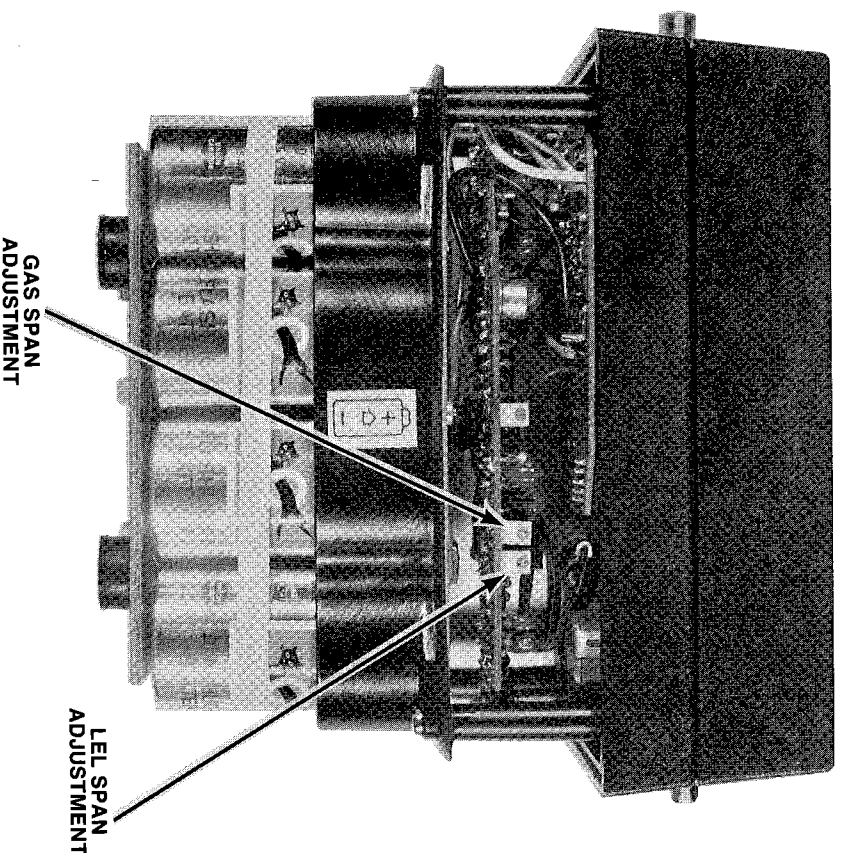

Figure 5-1. Location of Span Adjustments
2. Remove bottom section of case and place instrument on rubber bumpers, Figure 5-1, so that meter can be read.
7. Turn flow control valve counterclockwise. When needle stabilizes, meter should indicate 2. If it does not, turn LEL span adjustment, Figure 5-1, to obtain 2 on meter. If 2 cannot be obtained by turning LEL span adjustment, perform procedure under Replacing Catalytic Filament in Section 4 and then repeat this procedure. Turn valve clockwise.
Figure 5-1, to obtain 100 on meter. If 100 cannot be obtained by turning GAS span adjustment, refer to Replacing TC Filament in Section 4 and then repeat this procedure.